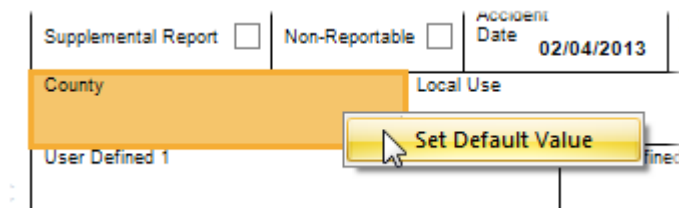

Figure 36. Field Shortcut Menu
3. Right-click to open the shortcut menu, as shown in Figure 36.